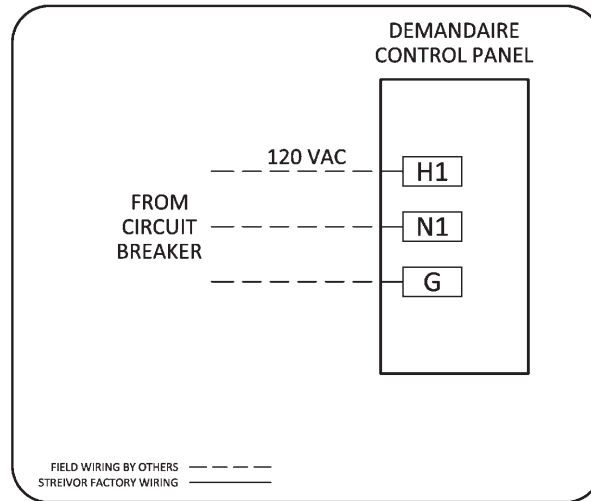

**FIGURE 14: Optional Modbus TCP Communication Wiring**
- A CAT5 or greater Ethernet communication cable may be connected to the RJ45 port on the HMI in the control panel for Modbus TCP communication with Building Management System(s) (*Figure 14*).